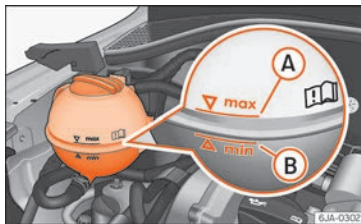

Fig. 245 Engine compartment: coolant tank.
- Read off the coolant level on coolant expansion tank » **Fig. 245**. When the engine is cold, the coolant should be between marks **B** (min.) and **A** (max.). When the engine is hot, it may be slightly above mark **A** (max.).
- Cover the cap on the coolant expansion tank » **Fig. 245** with a cloth and **carefully** unscrew the cap.
Never fill the coolant tank above mark **A** (max.) » **Fig. 245** ! Excess coolant is forced out of the cooling system through the over-pressure valve in the filler cap of the expansion tank when the engine heats up.